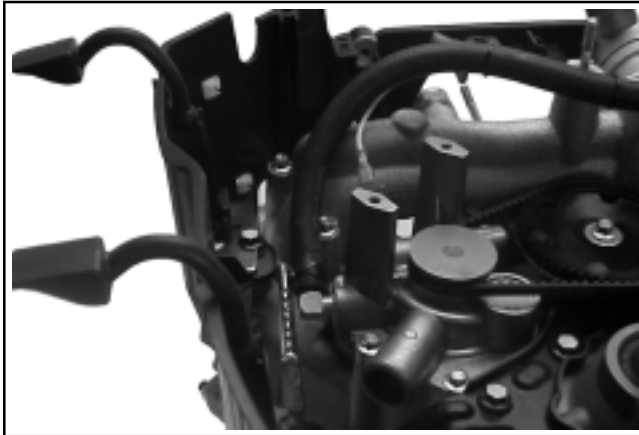

Figure 11-70. By-pass Hose Installation.
- Attach the by-pass hose to the fitting on the water pump and secure with the hose clamp. The tangs of the clamp should point outward. Completed installation should look as shown in Figure 11-70.